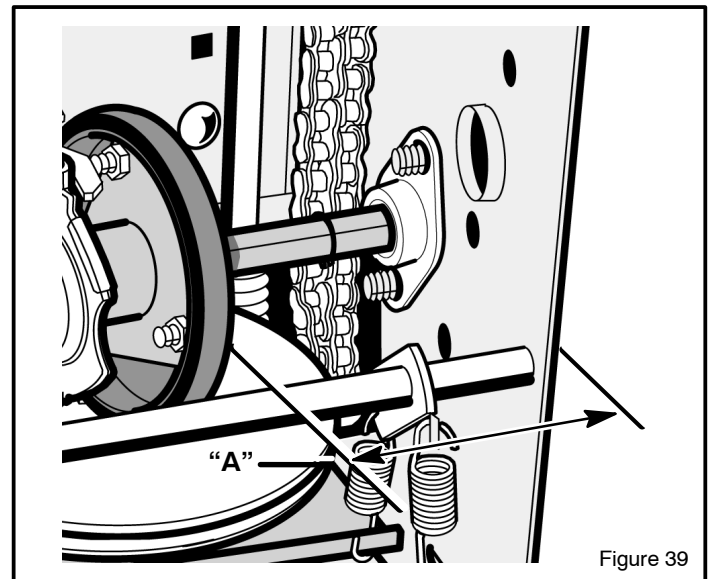

Figure 39
6. Note the position of the **friction wheel** (see Figure 39). The correct distance "**A**" from the right side of the **friction wheel** to the outside of the motorbox is as follows:
3. Move the **friction wheel** to the correct position (see Figure 39).